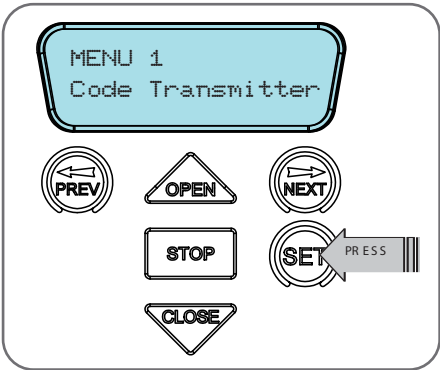

Fig F.1
- Press NEXT to navigate to Menu 1 (Fig. F.1) .